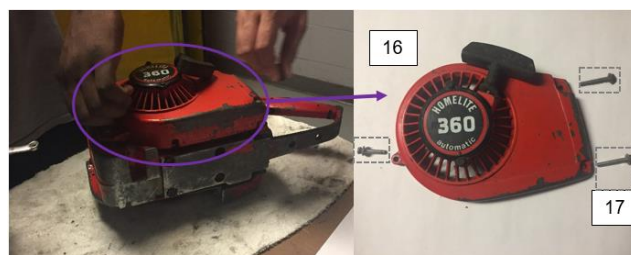

Figure 12: Pull Starter Housing Removal
Step 7: Rotating the main assembly to the side with the pull chord, use a 5/16in wrench to unscrew three Pull Starter Housing Bolts (17) and remove the Pull Starter Housing (16) from the main assembly. (Figure 12)